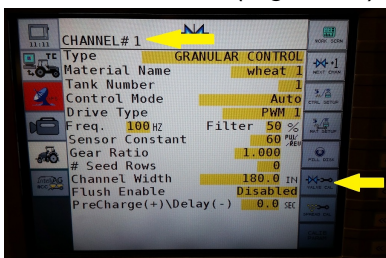

Figure 23
Step 3. Select **Channel**. (Figure 23)